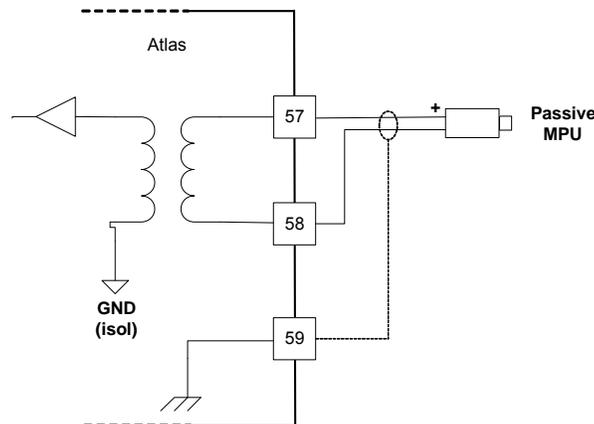

Figure 5-3. MPU Interface to the Analog Combo Board
- Refer to Figure 5-3 for speed sensor wiring.